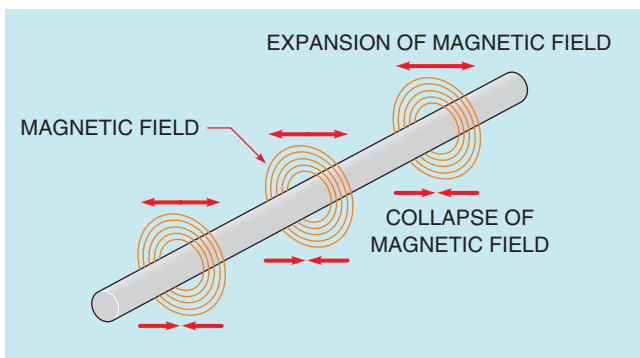

FIGURE 12-1 A continually changing magnetic field induces a voltage into any conductor.
Inductance (L) is one of the primary types of loads in alternating current circuits. Some amount of inductance is present in all alternating current circuits because of the continually changing magnetic field (Fig. 12-1). The amount of inductance of a single conductor is extremely small, and in most instances it is not considered in circuit calculations. Circuits are generally considered to contain inductance when any type of load that contains a coil is used. For circuits that contain a coil, inductance is considered in circuit calculations. Loads such as motors, transformers, lighting ballast, and chokes all contain coils of wire.